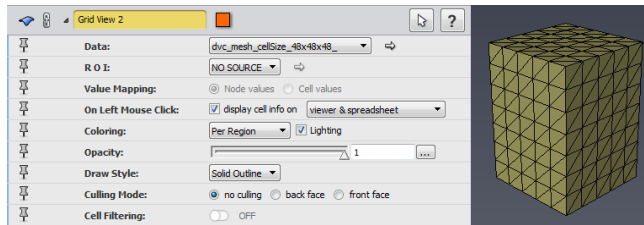

Figure 21.11: Grid View Module Properties and Tetrahedral Grid Visualization
- Visualize the mesh by attaching a *Grid View* module to the created mesh `dvc_mesh_cellSize_48x48x48_`. Set the *Draw Style* port to *Solid Outline* to visualize the elements (see Figure 21.11).